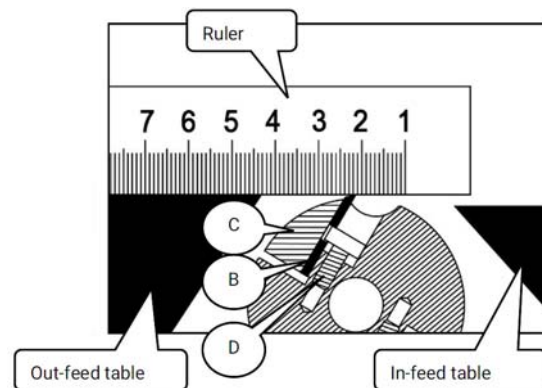

Fig. 32: Remove the planing knife
Step 6: Remove the planing knife (Pos.B, Fig.32) and knife holder (Pos.C, Fig.32).
Step 8: Insert the new planing knife and fix it with the screws (pos.D, fig.32).
Step 9: Place the knife holder (Pos.C, fig.32) on the new planing knife.
Step 10: Slightly tighten the screws (Pos.A,fig.32).